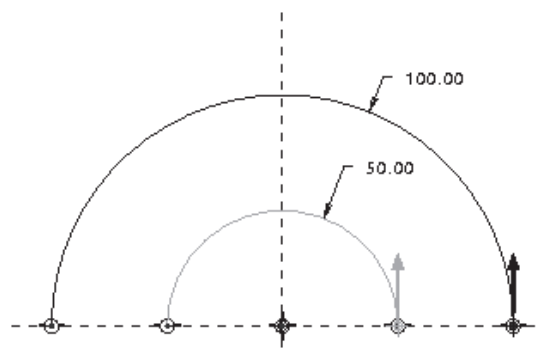

Figure 14-72 Sketch of the second arc
9. Draw the second arc and dimension it, as shown in Figure 14-72.